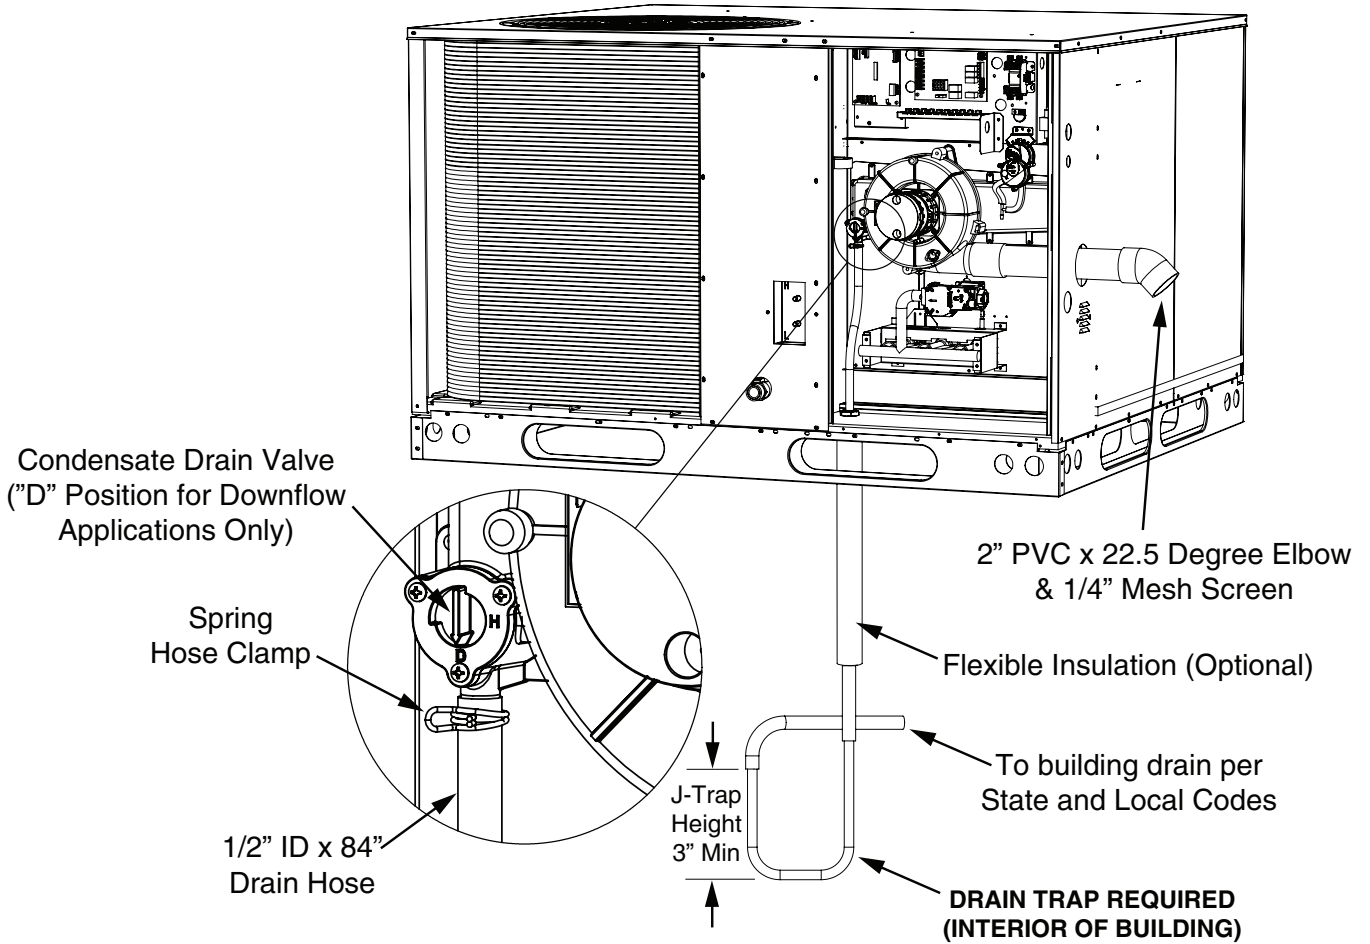

Figure 25. Condensate Disposal
Before hoisting and setting the unit in place, the short piece of factory installed drain line located next to the unit burner section must be removed from the HX collector box drain valve to allow for passage of the condensate drain line installed with the roof curb. The condensate drain valve is located in the bottom left corner of the heat exchanger collector box. See Figure 25 \(page 49\). Remove the drain line and rubber grommet located in the unit bottom pan, setting the rubber grommet aside for later use.
Downflow applications require the factory set position of the condensate drain valve be changed from the horizontal (H) to downflow (D) position. The condensate drain valve is located in the bottom left corner of the heat exchanger collector box to the left of the inducer motor. See Figure 25. Carefully rotate the valve 90 degrees in a clockwise direction until the arrow is pointing vertically downward.
- For Installations where there is limited clearance for the J-Trap (such as an attic where it may be installed between ceiling joists), either side of the J-Trap can be shortened to a minimum of 3 Inches. See Figure 25 \(page 49\).